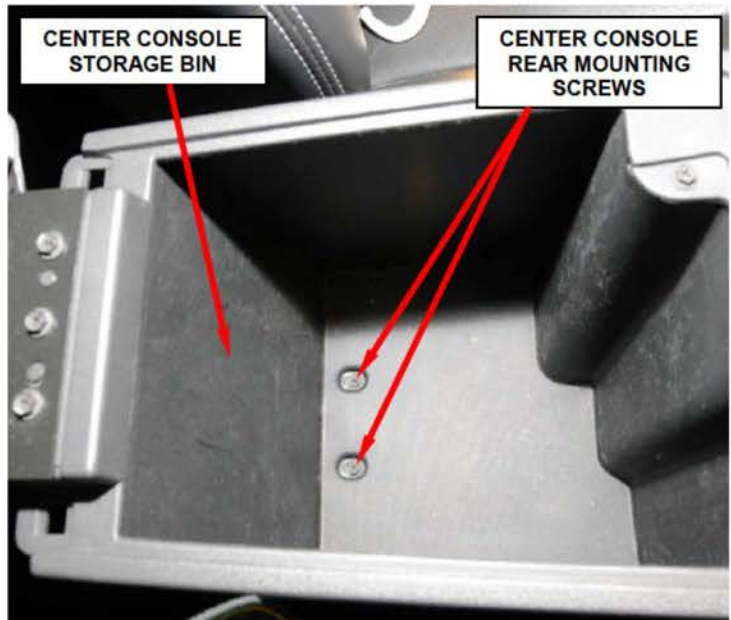

Figure 9 – Center Console Rear Mounting Screws
5. Remove and save the two center console rear mounting screws (Figure 9).